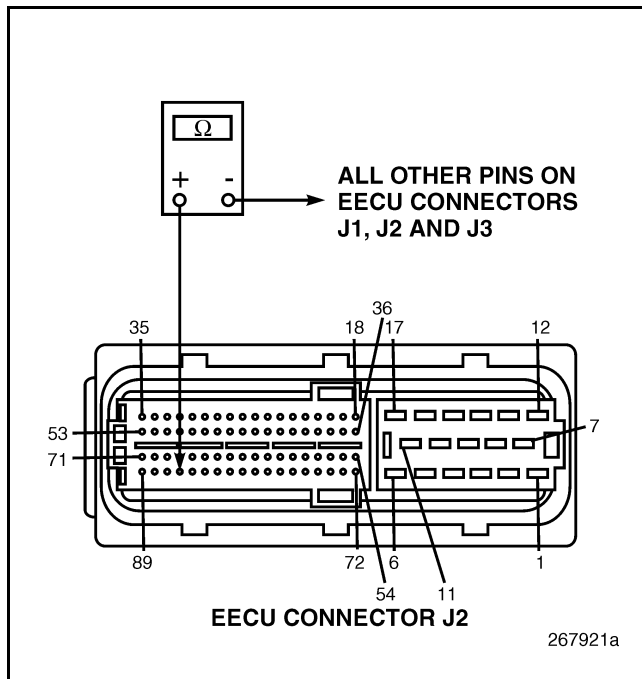

Figure 160
4. Check for continuity between EECU harness connector J2 pin 86 and all other pins on EECU harness connectors J1, J2, and J3 (see Figure 160).